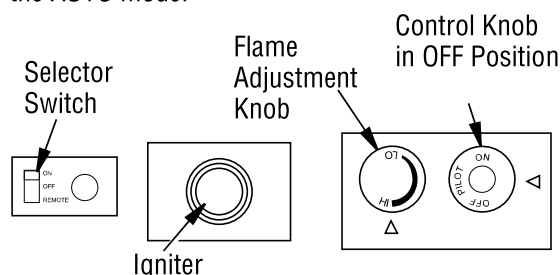

Figure 41 - Control Knob, Igniter Button and Remote Selector Switch
5. Wait five (5) minutes to clear out any gas. Then smell for gas, including near the floor. If you smell gas, STOP! Follow "B" in the safety information, column 1. If you don't smell gas, go to the next step.
6. Press in and turn control knob counterclockwise ↺ to the PILOT position. Press in control knob for five (5) seconds (see **Figure 41, Page 26**).
After lighting, let pilot flame burn for about one minute. Turn control knob to ON position. Adjust flame adjustment knob anywhere between HI and LO. Slide the selector switch to the REMOTE position (see **Figure 41**).